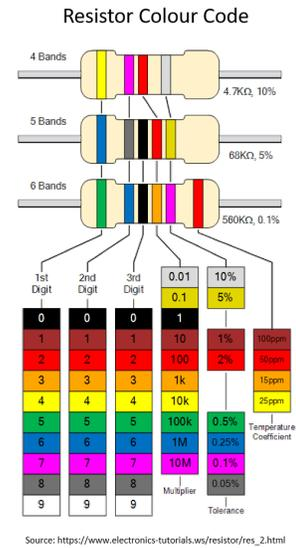

Figure 2: Resistors found in the 1P92 accessory kit
- 1 Ω resistor R_s (see Figure 2)
- 100 k Ω resistor R_1 (see Figure 2)